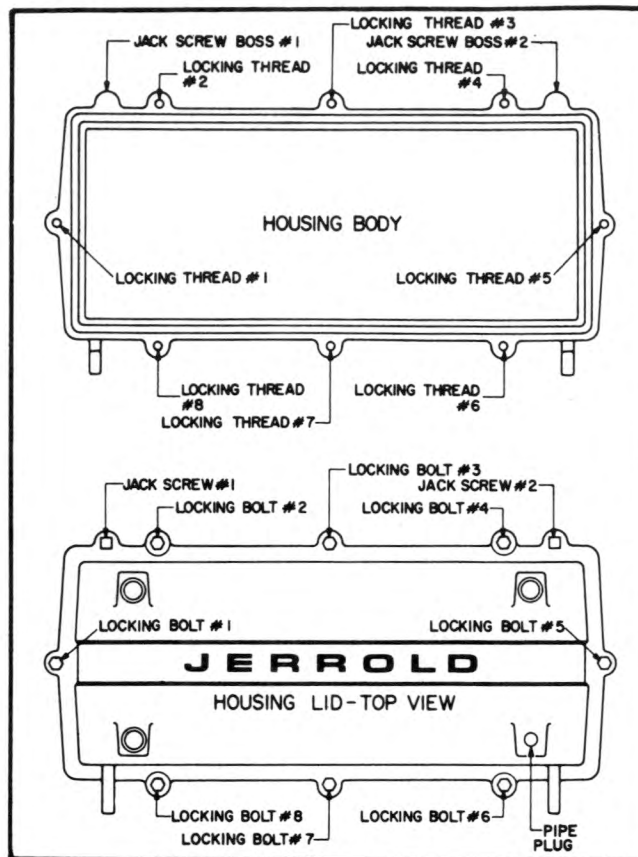

Fig. 3—Cast Iron Housing
- 7.3** Cut an appropriate length of sealant. Start by first inserting the center section of the rod in the area of LOCKING THREAD #7 of the groove in the housing body. The sealant should be stretched somewhat in this area (see Fig. 3) so that an even spread will be achieved when the housing is closed under pressure.